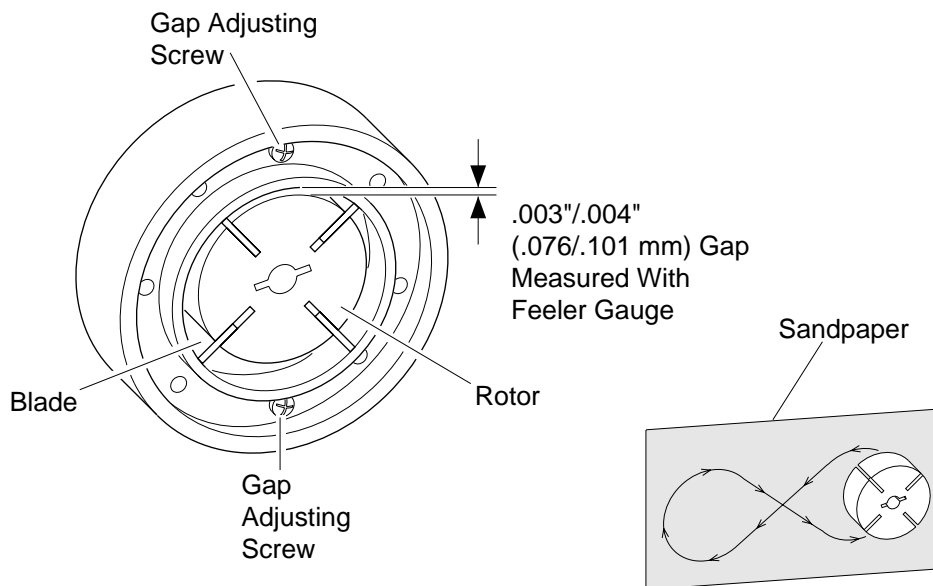

Figure 27 - Gap Adjusting Screw Locations
9. Check gap on rotor. Adjust to .003"/.004" (.076/.101 mm) if needed (see Figure 27).